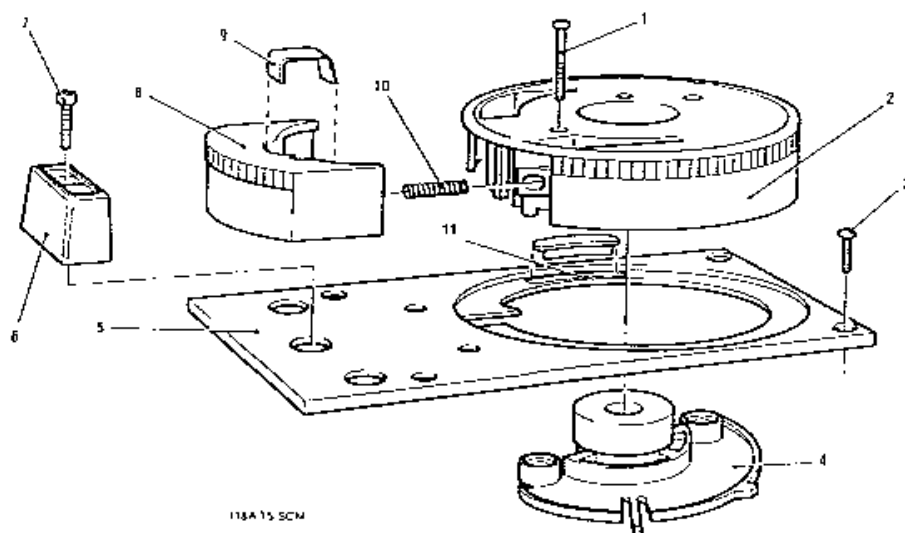

Fig. 10.7 Dial And Top Plate Assembly
10.9 Dial And Top Plate Assembly (Fig. 10.7)